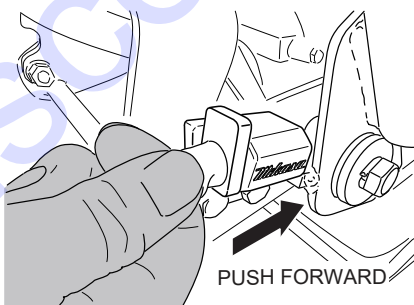
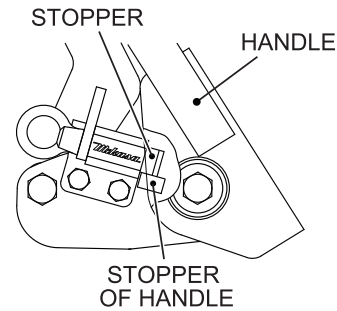

Figure 9. Handle Stopper (Push In)
Figure 10. Handle Stopper Pin
3. Push in the handle stopper (Figure 9) and secure by inserting the stopper pin (Figure 10).